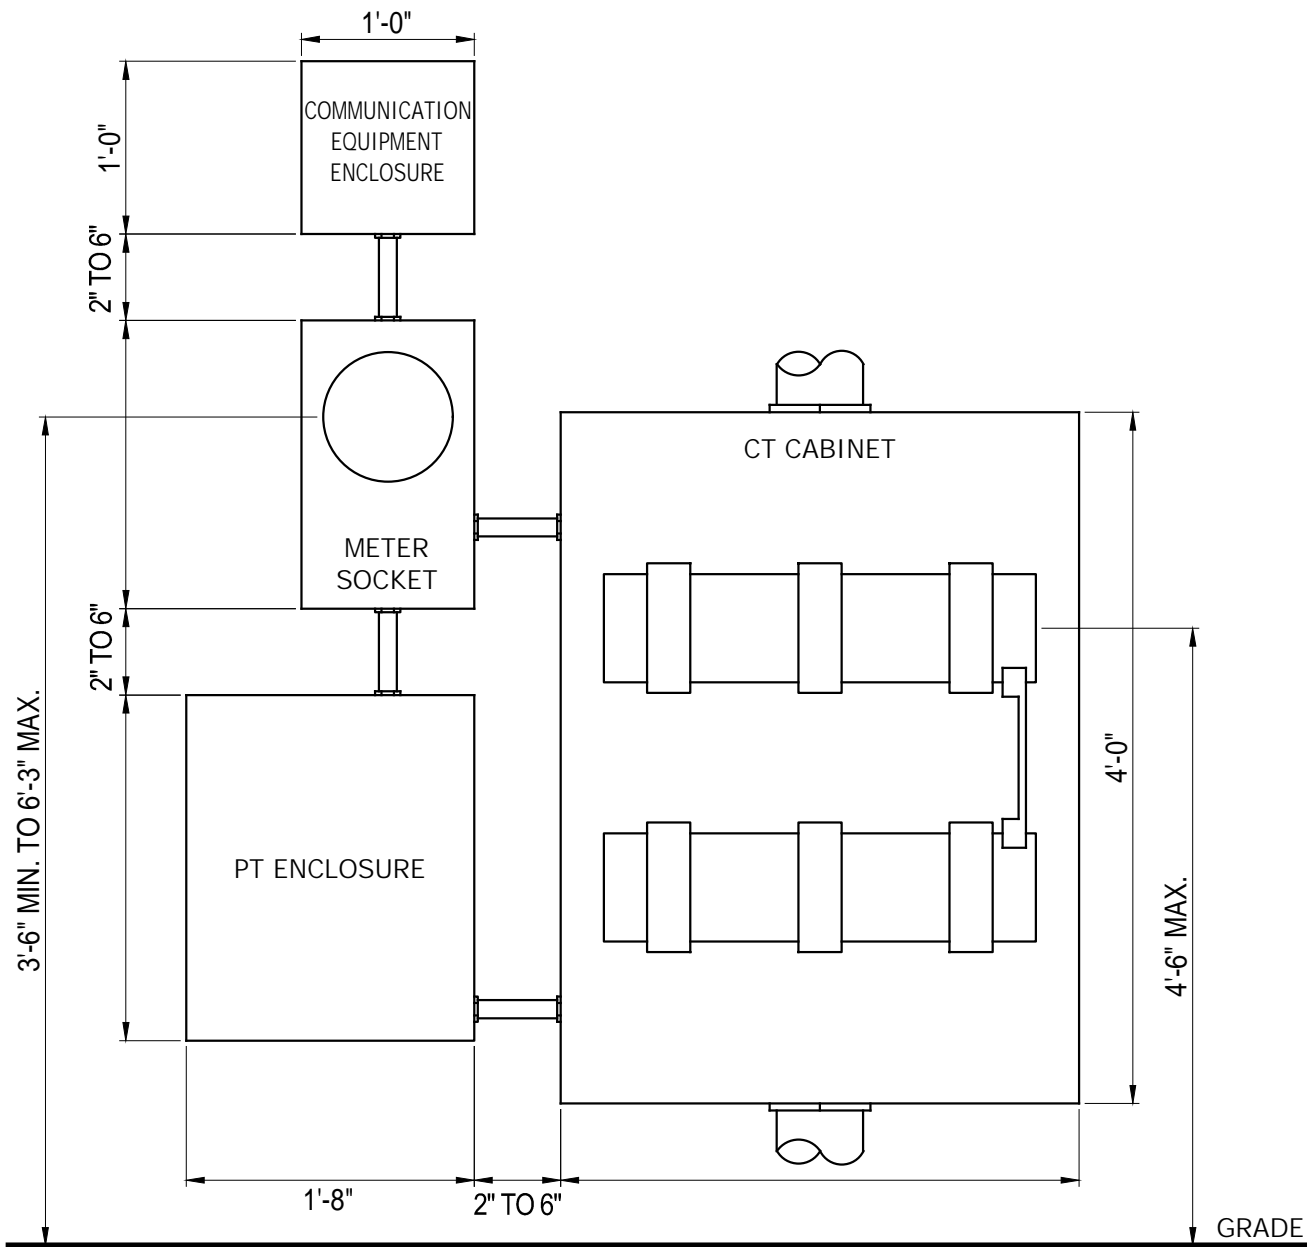

FIGURE 1
1. See FIGURE 1 for the required equipment layout when using a CT cabinet and transformer-rated meter socket for DG metering.